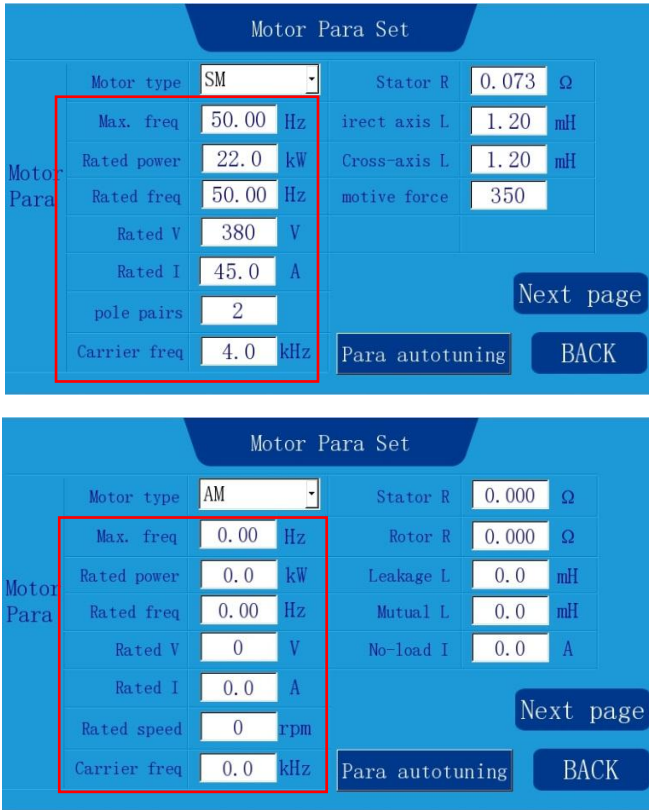

Figure 4-7 Master parameter setup interface
Step 2: Click **Motor Para Set** on the system configuration interface, as shown in Figure 4-7.
Select motor type, if selecting “SM”, it is necessary to set the maximum frequency, rated frequency, rated power, rated voltage, rated current, pole pairs, and carrier frequency, as shown in Figure 4-7; if selecting “AM”, it is necessary to set the maximum frequency, rated frequency, rated power, rated voltage, rated current, rated speed, and carrier frequency.